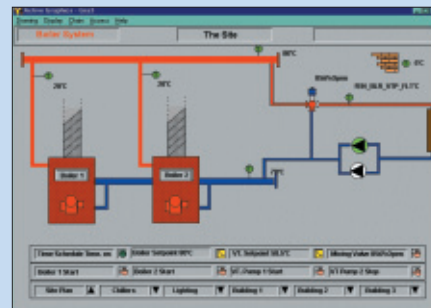

FIG 3- ACTIVE GRAPHICS
- **active graphics.** This allows the user to manually adjust the condition of the system by simply clicking on a representation of the desired item (a pump or fan for example). This will cause a selection box to appear prompting for the value or condition desired (Fig 3). In addition to this feature, under certain conditions, it is also possible to enable items of text or machinery to be displayed. A failure in airflow, for example, could be arranged to result in a piece of warning text to be displayed.